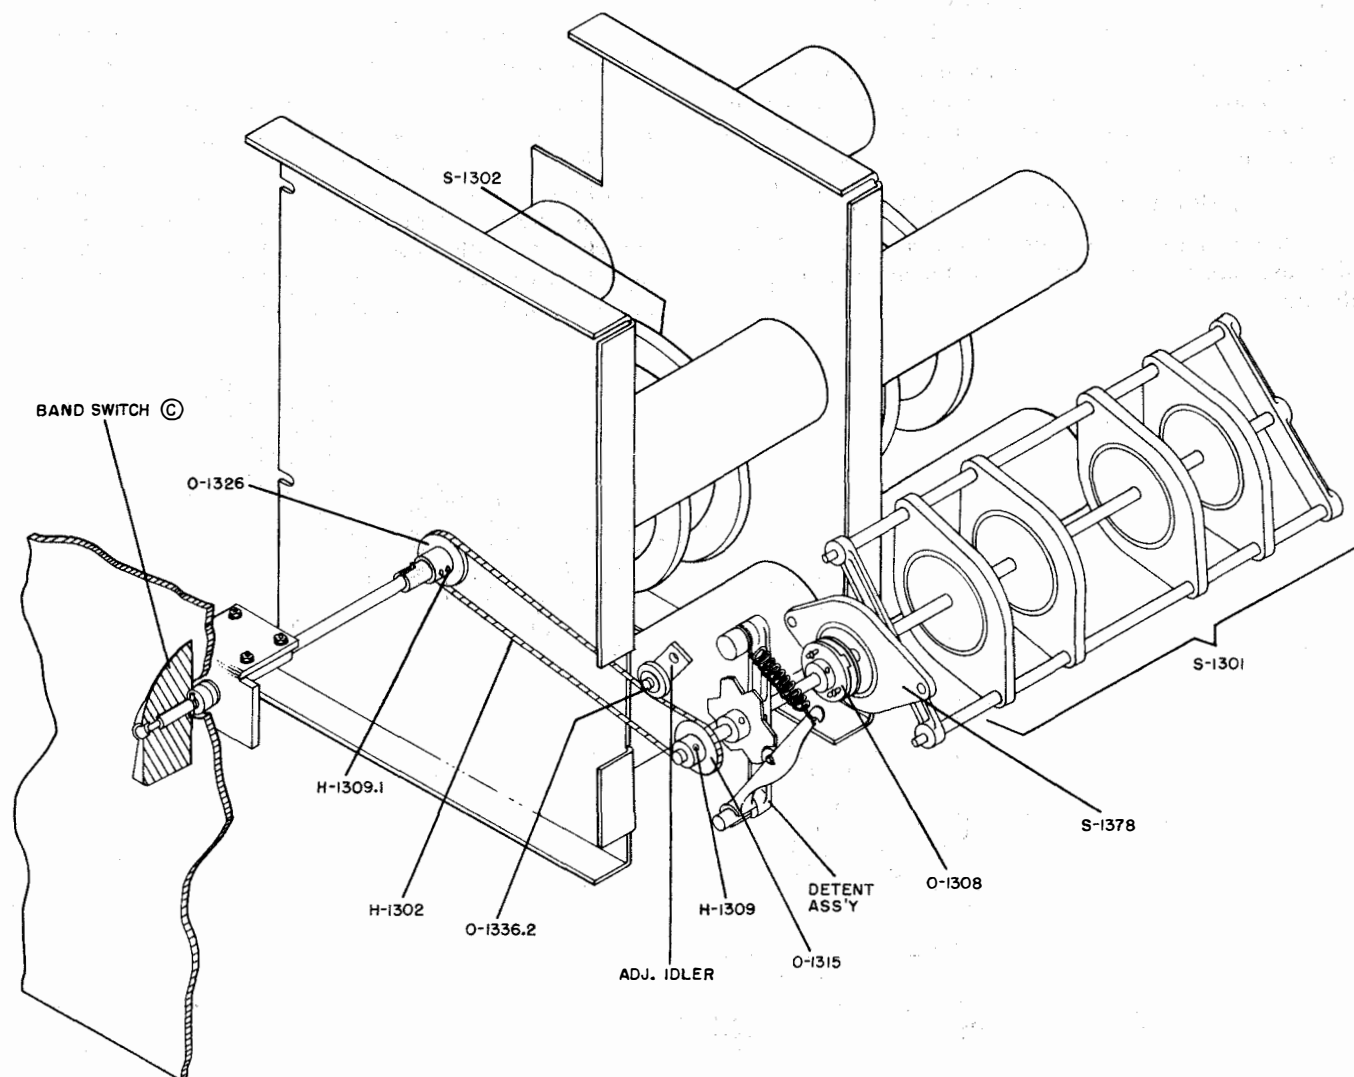

Figure 7-77. RFA, S-1301 and S-1302 Bandswitch, Mechanical Drive System
8. BANDSWITCHES S-1301 AND S-1302. (See figures 7-74 and 7-77.)—If any of the components of bandswitches S-1301 and S-1302 are replaced, it will be necessary to check proper phasing of these switches after reassembly. (Refer to figure 7-77.)
Step 4. Rotate BANDSWITCH selector © to the 2-5 MC position. At this position the red dots on coupler O-1308 will be facing outwards (figure 7-77).